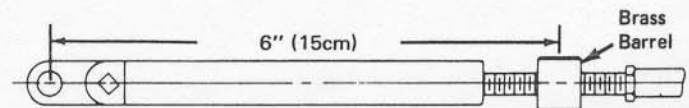

Figure 2. Centerline to Centerline 6" (15cm)
4. With cable end guide installed, shift unit in full forward gear. While shifting, turn propeller shaft counterclockwise until shaft stops, to assure full clutch engagement. Distance from centerline of brass barrel to centerline of cable end guide mounting hole must be exactly 6" (15cm). (Figure 2) Readjust brass barrel to achieve this dimension.